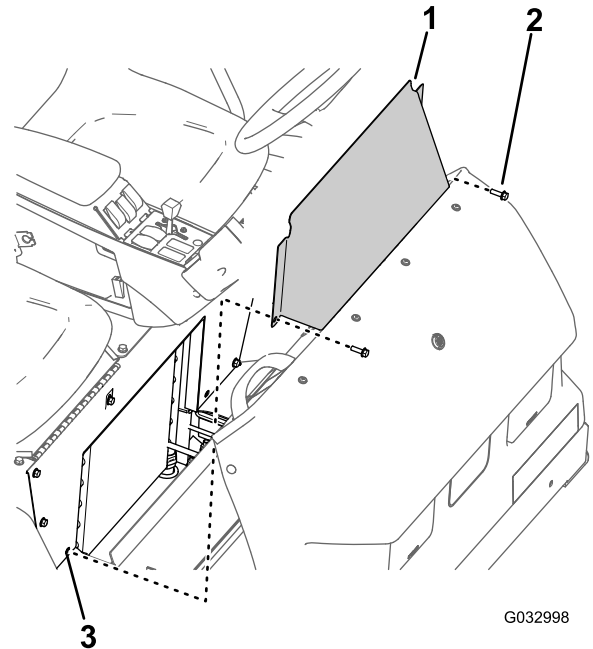

Figure 69
1. Remove the 2 flanged-head bolts that secure the seat-base-access panel to the seat base (Figure 69).
2. Remove the seat-base-access panel from the machine (Figure 69).
1. Align the holes in the seat-base-access panel with the holes in the seat base (Figure 69).
2. Assemble the seat-base-access panel to the seat base with the 2 flanged-head bolts (Figure 69) that you removed in step 1 of Removing the Seat-Base-Access Panel (page 54).